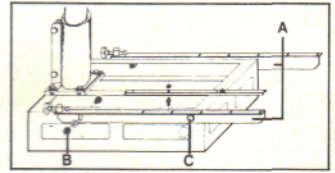
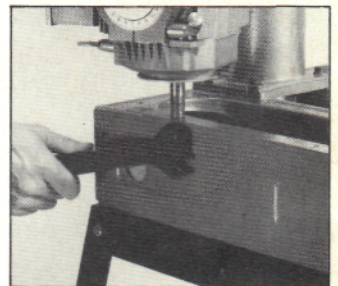

Fig. 1
Fig. 3
1. Prepare the base frame for the table boards by setting the 2 angled support brackets (A-Fig. 1) on each side of the frame so that the securing bolts (B) and (C) are at the mid-point in the slotted holes. At this stage the bolts should only be finger tight.
- (v) Tighten the nut (C), rotate the arm to its 45° position left and move the yoke assembly back along the arm until the shaft is again over the support bracket (Fig. 3). If the motor arbor does not just touch the support bracket here also, gently tap the bracket up or down as required and then tighten nut (B) (Fig. 1). Having tightened both (B) and (C), check once more that the motor arbor just touches the upper surface of the left-hand support bracket over its entire length. If it does not, loosen the nuts and repeat the above procedure.